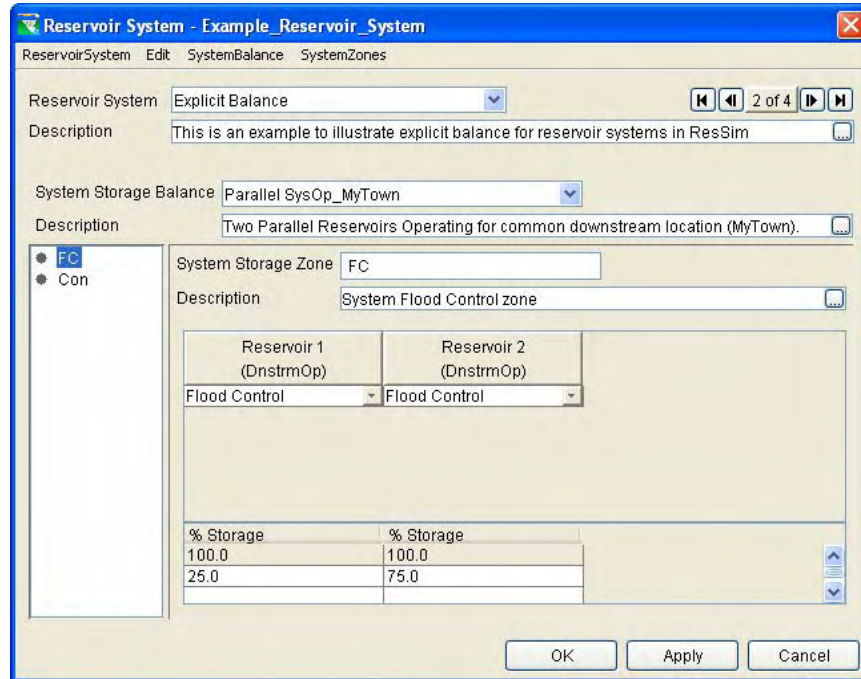

Figure 12.19 Configuring System Storage Balance
When you have defined at least one system storage zone for your reservoir system, its name will appear in the white pane at the bottom left of the **Reservoir System Editor**, and a new set of fields will appear in the large gray area, as shown in Figure 12.19. These new fields allow you to configure the system storage balance for your reservoir system.
Once you have successfully created a new reservoir system (by following the steps presented in Sections 12.5 through 12.8), several new fields become available that allow you to configure the storage balance across reservoirs. We will use Figure 12.19 to illustrate how to do this.
In Figure 12.19, the **System Storage Balance** field indicates we are using a System Storage Balance called “Parallel SysOp_MyTown,” and there are two **System Storage Zones**, “FC” and “Con.”
In Figure 12.19, “FC” is selected, so its name and description appear in the **System Storage Zone** and **Description** fields.
In Figure 12.19, there are two reservoirs in the system, and we have chosen the “Flood Control” zone for each reservoir, as shown below:
- Repeat the process for each **System Storage Zone** you have created. For example, in Figure 12.19, once you have configured the “FC” System Storage Zone, you would want to configure the reservoir system balance for the “Con” System Storage Zone.